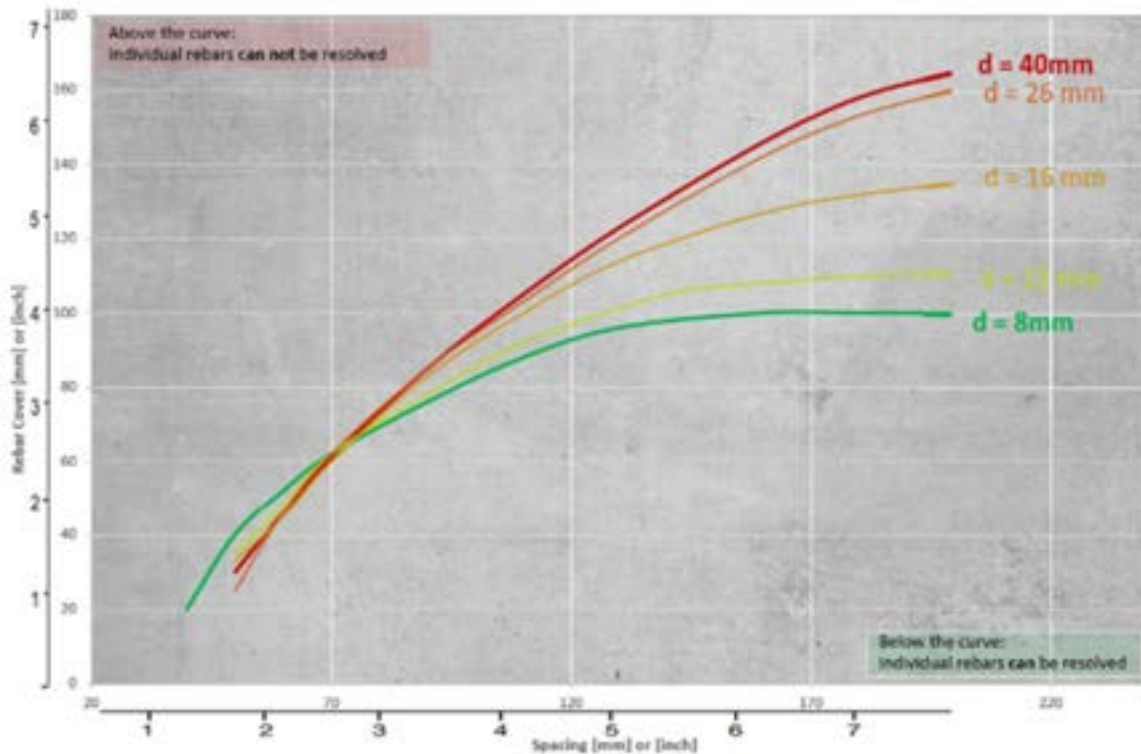

Figure 31: PM8000 Resolution Chart
- ① This effect can be minimized using the neighboring rebar correction “NRC” feature (for both the first and second rebar layers) integrated into the PM8000 sensor for spot measurements, as well as in the PM app’s functionality. For more details, refer to section 4.7.5 and the scan measurement features in the pm app software.
- ① There is a limit to the minimum spacing of rebars, which can be differentiated. This value is depending on the cover depth and rebar diameter. It is impossible to distinguish between individual rebars above these limits following the rebar diameters as presented in Figure 31.